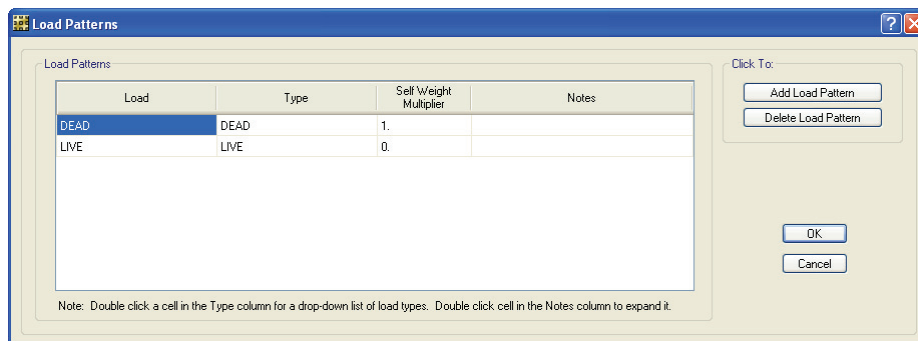

Figure 17 Load Patterns form
- A. Click the **Define menu > Load Patterns** command to access the Load Patterns form shown in Figure 17.